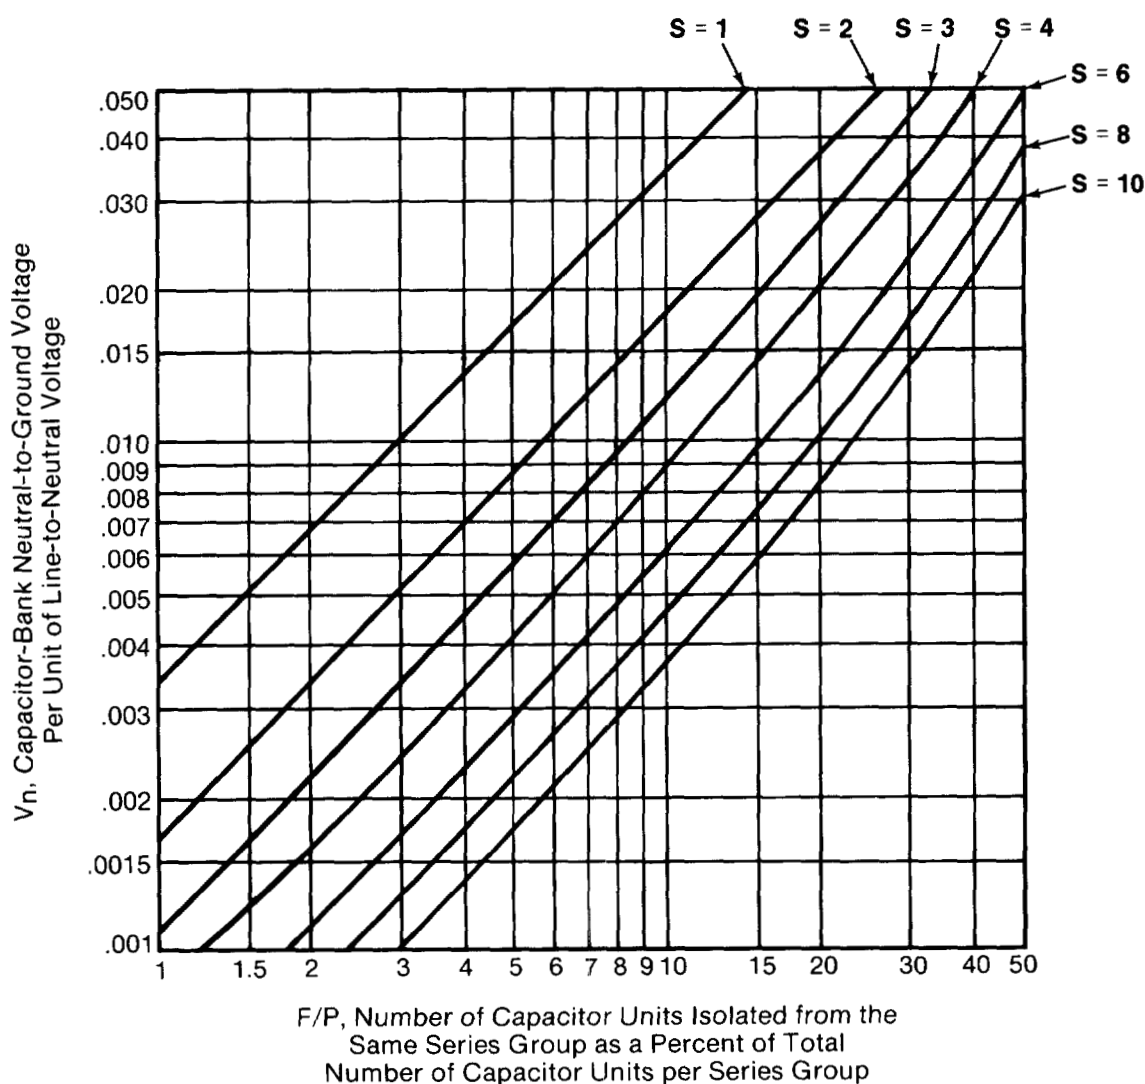

Figure 6. Per-unit capacitor-bank neutral-to-ground voltage versus percentage of capacitor units isolated from the same series group.
4. Using the graph, Figure 6, read per-unit values of V_n —capacitor-bank neutral-to-ground voltage—for the same series of steps corresponding to increasing values of F up to and including F_C .
5. Convert the per-unit values of V_n read in (4) above to actual V_n voltage values by multiplying by the highest anticipated system line-to-neutral voltage.
4. For $F = 1$, enter the graph, Figure 6, at 10 on the horizontal scale (1/10 = 10% of capacitor units isolated from a series group). Follow up to a point corre-
For $F = 2$, in like manner, enter the graph, Figure 6, at 20 on the horizontal scale (2/10 = 20% of capacitor units isolated from the same series group). Follow up to a point corresponding to 2 series groups per phase (curve labeled "S = 2") and read $V_n = .038$ per unit on the vertical scale.
3. With an anticipated system line-to-neutral voltage of 139.44 kv and with 7 series groups per phase, the capacitor units are normally operated at 19.92 kv, their rated voltage. Therefore, no correction factor need be applied to the values read in (2) above.
4. For $F = 1$, enter the graph, Figure 6, at 8.33 on the horizontal scale ($1/12 = 8.33\%$ of capacitor units isolated from a series group). Follow up to a point corresponding to 7 series groups per phase (interpolate between curves labeled " $S = 6$ " and " $S = 8$ ") and read $V_n = .0043$ on the vertical scale.
For $F = 2$, in like manner, enter the graph, Figure 6, at 16.67 on the horizontal scale ($2/12 = 16.67\%$ of capacitor units isolated from the same series group). Follow up to a point corresponding to 7 series groups per phase and read $V_n = .0093$ on the vertical scale.